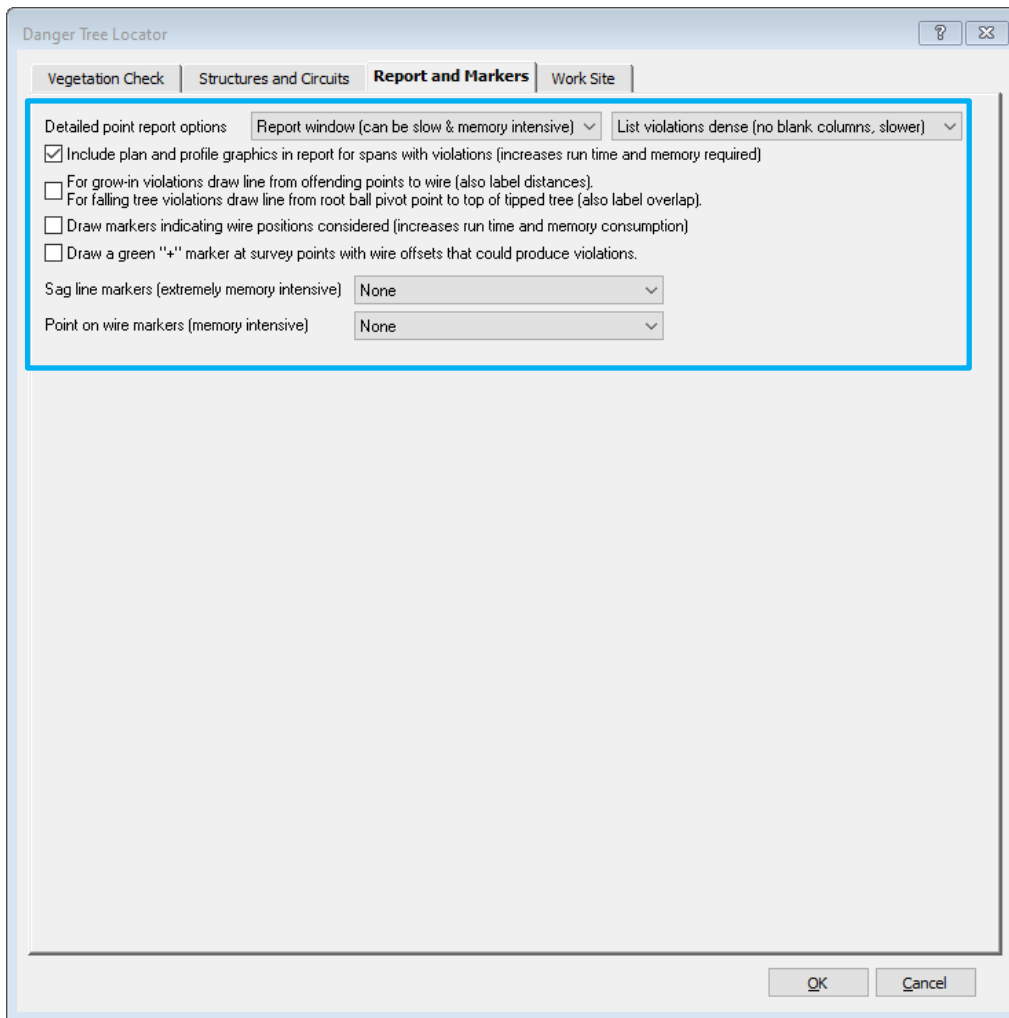

Figure 7: Danger Tree Locator - Report and Markers tab
- *Vegetation Analysis Report*: the full detailed report for each point considered in the checks. Only included if *Report Window (can be slow and memory intensive)* is selected from the drop down list for Detailed point report options, selected on the **Report and Markers** tab of the **Danger Tree Locator** dialog box (Figure 7).
- *Graphical Views*: Span by Span plan and profile drawings for spans with violations. Only visible if *Option to include plan and profile graphics in the report for spans with violations* is selected on the **Report and Markers** tab of the **Danger Tree Locator** dialog box (Figure 7). The line and ground models appear in grayscale with violation markers appearing in color to emphasize the location of the points.
Select the option to *Include plan and profile graphics in the report for spans with violations* as indicated in the **Report and Markers** tab of the **Danger Tree Locator** dialog box (Figure 7) before running the analysis.